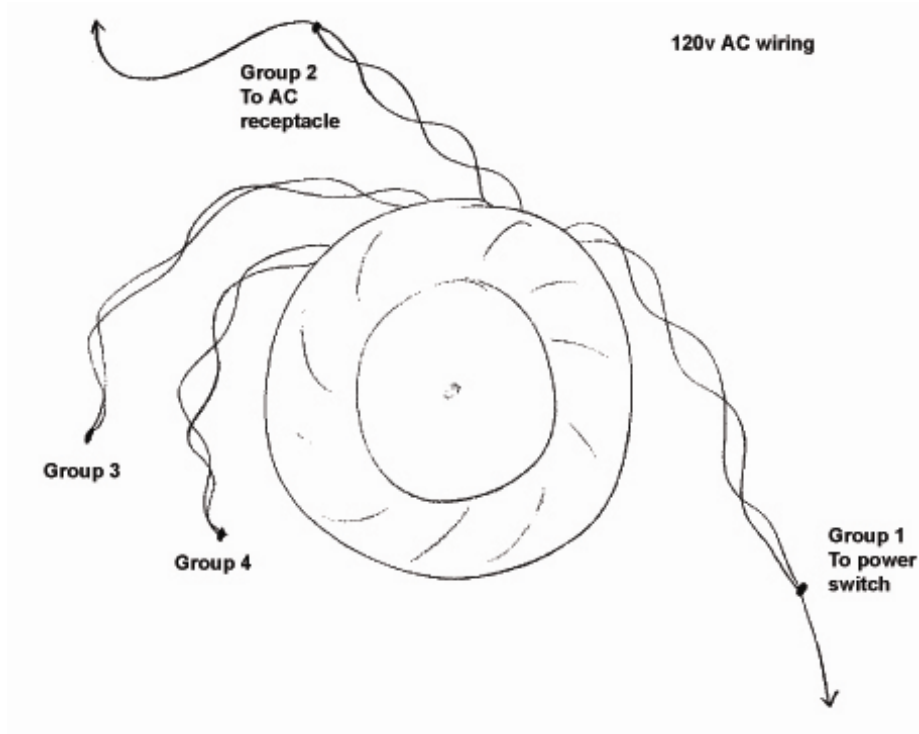

Fig. 1 – 120v AC wiring
1. Remove ONE of the wires of group 1 going to the power switch (see fig. 1 for details).